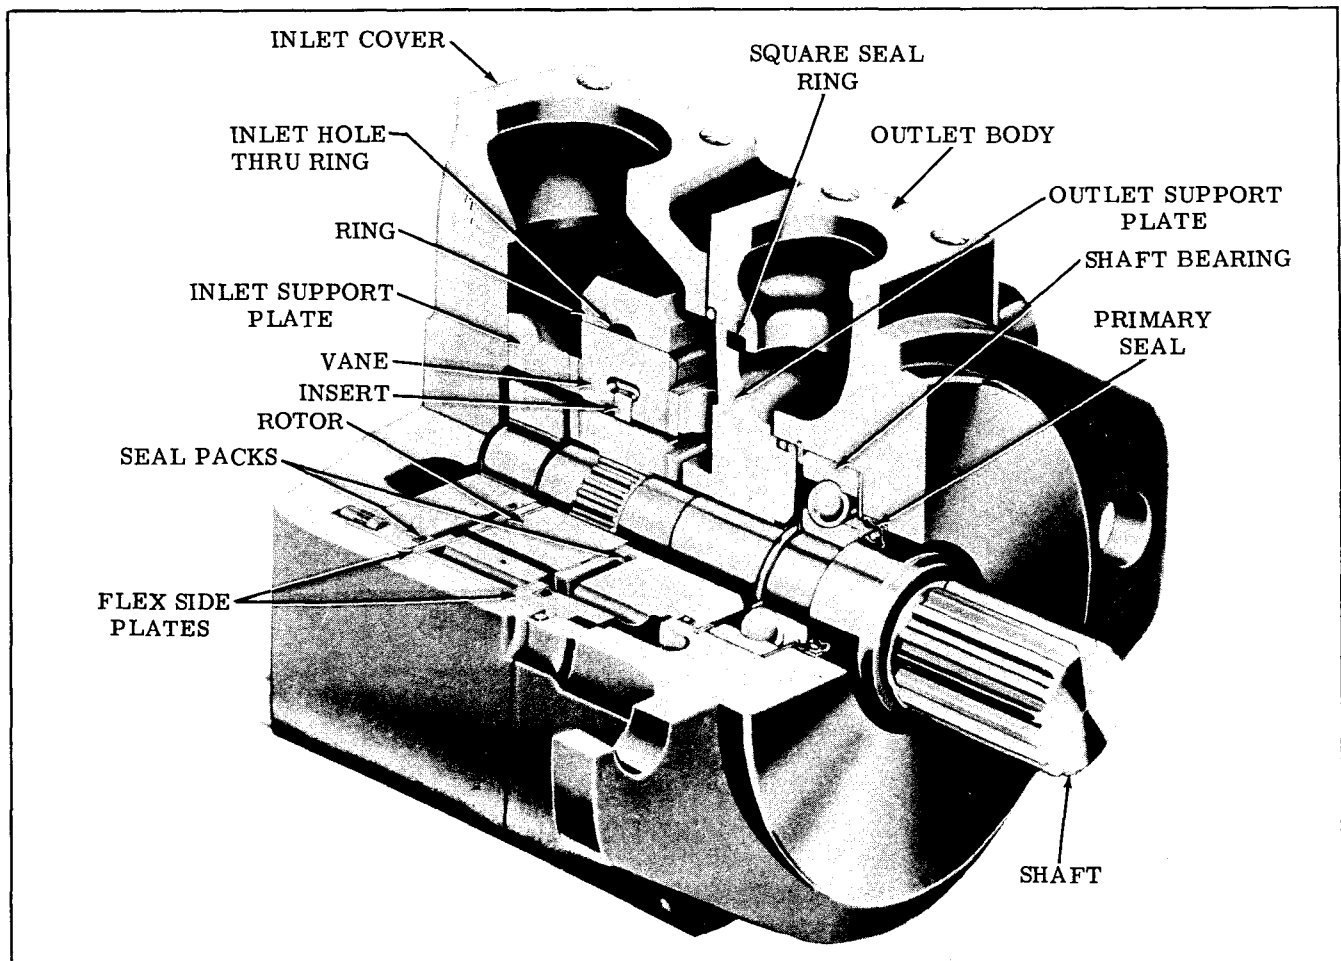

Figure 1 - Cutaway View of Typical High Performance VQ, Single Pump
1. Basic Pumps – The pump illustrated in Figure 1 is representative of all single pumps in this series. The unit consist
An additional inlet fluid path exists through a drilled hole in the cam ring. This hole connects the inlet port directly to the inlet areas of the cam ring and provides an additional flow path for fluid to get into the cartridge. (See Figure 1.)